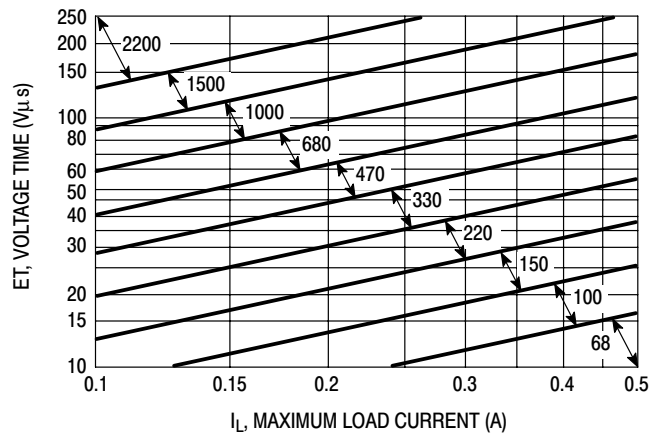

Figure 23. LM2574-ADJ
4. Inductor Selection (L1) A. Use the following formula to calculate the inductor Volt x microsecond [V x μs] constant: $E \times T = (V_{in} - V_{out}) \frac{V_{out}}{V_{in}} \times \frac{10^6}{f[Hz]} [V \times \mu s]$ B. Match the calculated E x T value with the corresponding number on the vertical axis of the Inductor Value Selection Guide shown in Figure 23. This E x T constant is a measure of the energy handling capability of an inductor and is dependent upon the type of core, the core area, the number of turns, and the duty cycle. C. Next step is to identify the inductance region intersected by the E x T value and the maximum load current value on the horizontal axis shown in Figure 27. D. From the inductor code, identify the inductor value. Then select an appropriate inductor from Table 2. The inductor chosen must be rated for a switching frequency of 52 kHz and for a current rating of $1.15 \times I_{Load}$. The inductor current rating can also be determined by calculating the inductor peak current: $I_{p(max)} = I_{Load(max)} + \frac{(V_{in} - V_{out})t_{on}}{2L}$ where t_{on} is the "on" time of the power switch and $t_{on} = \frac{V_{out}}{V_{in}} \times \frac{1.0}{f_{osc}}$ For additional information about the inductor, see the inductor section in the "External Components" section of this data sheet.	4. Inductor Selection (L1) A. Calculate E x T [V x μs] constant : $E \times T = (40 - 24) \times \frac{24}{40} \times \frac{1000}{52} = 105 [V \times \mu s]$ B. $E \times T = 185 [V \times \mu s]$ C. $I_{Load(max)} = 0.4$ A Inductance Region = 1000 D. Proper inductor value = 1000 μH Choose the inductor from Table 2.